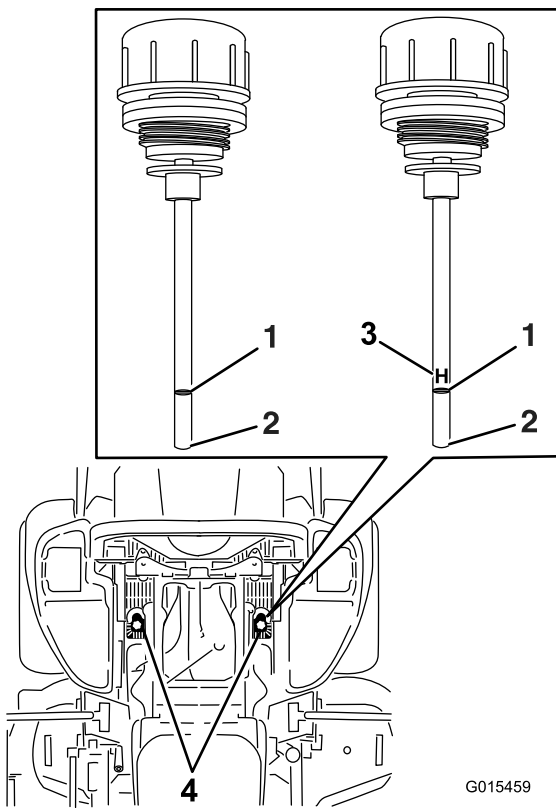

Figure 88
6. Clean the area around the dipsticks of the hydraulic system reservoirs (Figure 88).
7. Remove 1 dipstick from the hydraulic reservoir (Figure 88).
9. Remove the dipstick and look at the end (Figure 88).